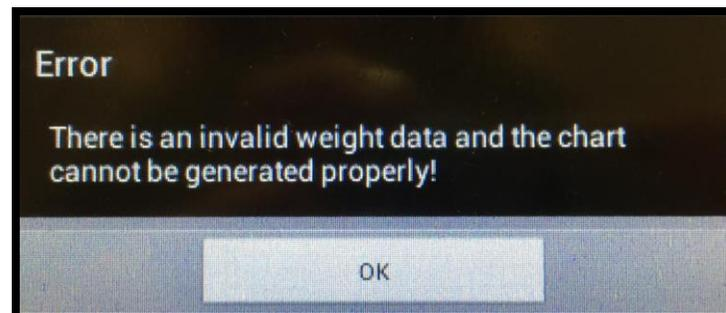

Figure 32
- a) In the event this window is opened and the compatible balance is not connected to the MAJSx an **ERROR** window stating “There is an invalid weight data and the chart cannot be generated properly!” will appear. Press **OK** and the window will close. (Figure 32)